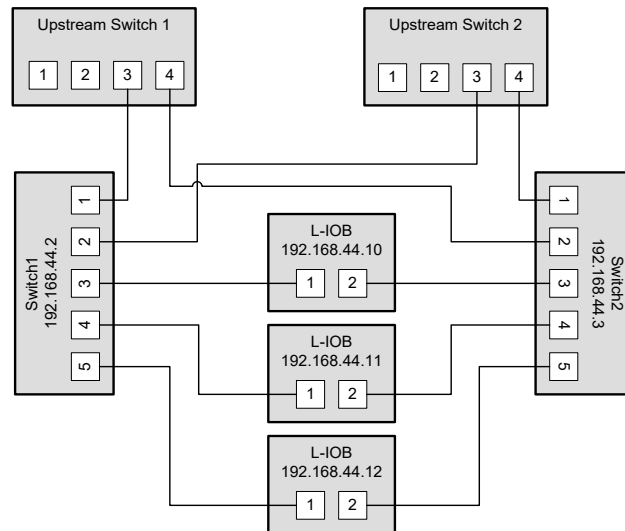

Figure 59: Fully redundant Ethernet topology
**Fully redundant topology:** Both Ethernet ports are connected to a different upstream switch. Thus, a single cable or upstream switch problem can be tolerated. This topology requires RSTP. In Figure 59, the L-IOB devices with IP addresses 192.168.44.10 to 192.168.44.12 are connected in this way. This connection scheme increases switch and cabling costs, but increases network resilience. Note that the upstream network is connected via the lowest-numbered ports. If this is not possible, the ports need to be configured to the lowest STP port priority value (which is the highest priority).
**Redundant upstream connection:** Switch1 and Switch2 are both connected to the upstream network, either to two ports on the same switch or to two redundant upstream switches. In this case, RSTP is needed to ensure a loop-free topology between the upstream switches, Switch1 and Switch2, so the RSTP domain includes the upstream network and the chained L-IOB devices. The configuration of Switch1 and Switch2 need to ensure that they are not selected as the root bridge. If possible device communication should be bound to a separate VLAN and MSTP (Multiple Spanning Tree Protocol) should be employed to isolate the spanning tree operations. This topology is shown in Figure 59.
The following example shows the configuration commands for Switch1, Switch2 and the upstream switch (HP Procurve syntax) in the setup shown in Figure 59.